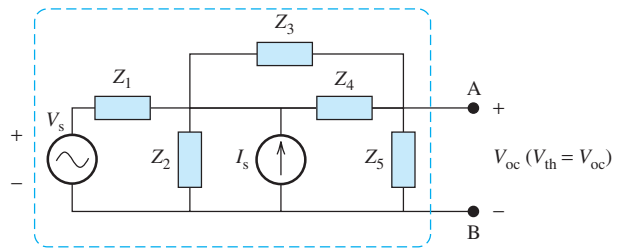

FIGURE 6.28 Thévenin equivalent voltage.
Calculating the Thévenin voltage (see Figure 6.28):
2. Define the open-circuit voltage V_{oc} ($V_{oc} = V_{AB}$, in Figure 6.28).
Calculating the Thévenin impedance (see Figure 6.28):